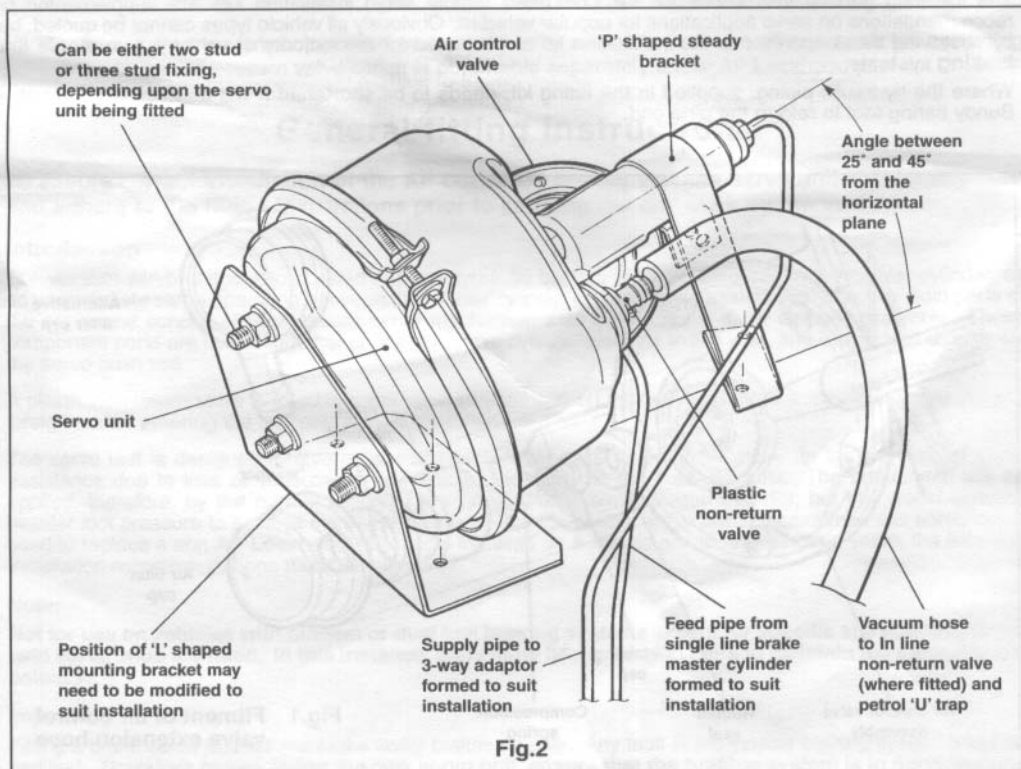
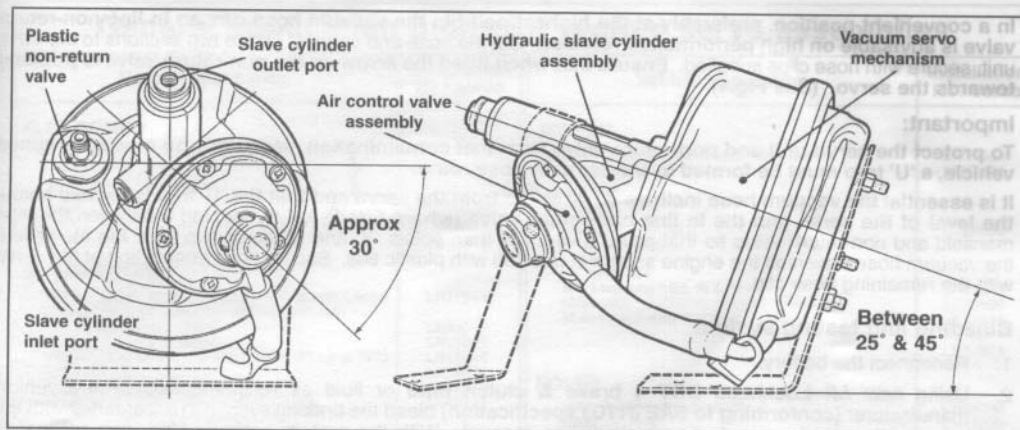

Fig.2
Fig.3
5. With the aid of the mounting brackets and fixings provided in the kit install the servo unit with the hydraulic slave cylinder outlet port **inclined upwards between 25° and 45° from the horizontal plane**. (See Fig.2). The air control valve should be situated **at least 30° below the centre line** to assist when bleeding the hydraulic system. (See Fig.3).